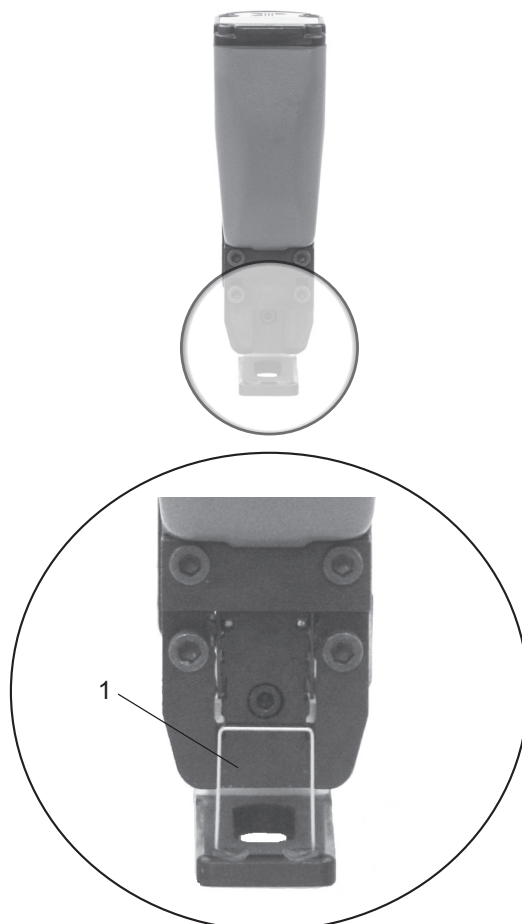

Fig. 11
- Insert a loose staple into the nozzle (Fig.11/1).